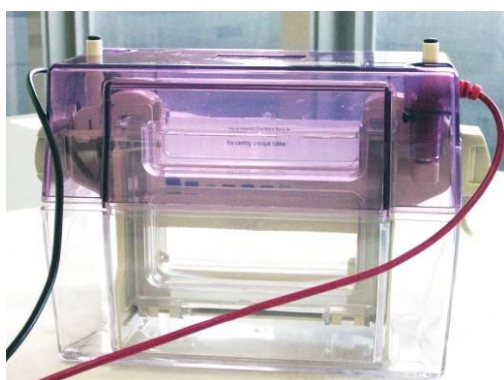

Figure 13. *Fasten the lid. The design of the assembly ensures the correct position of the lid.*
- Place the safety lid on top of the tank and connect the electrode wires to the power supply (*fig. 13*).